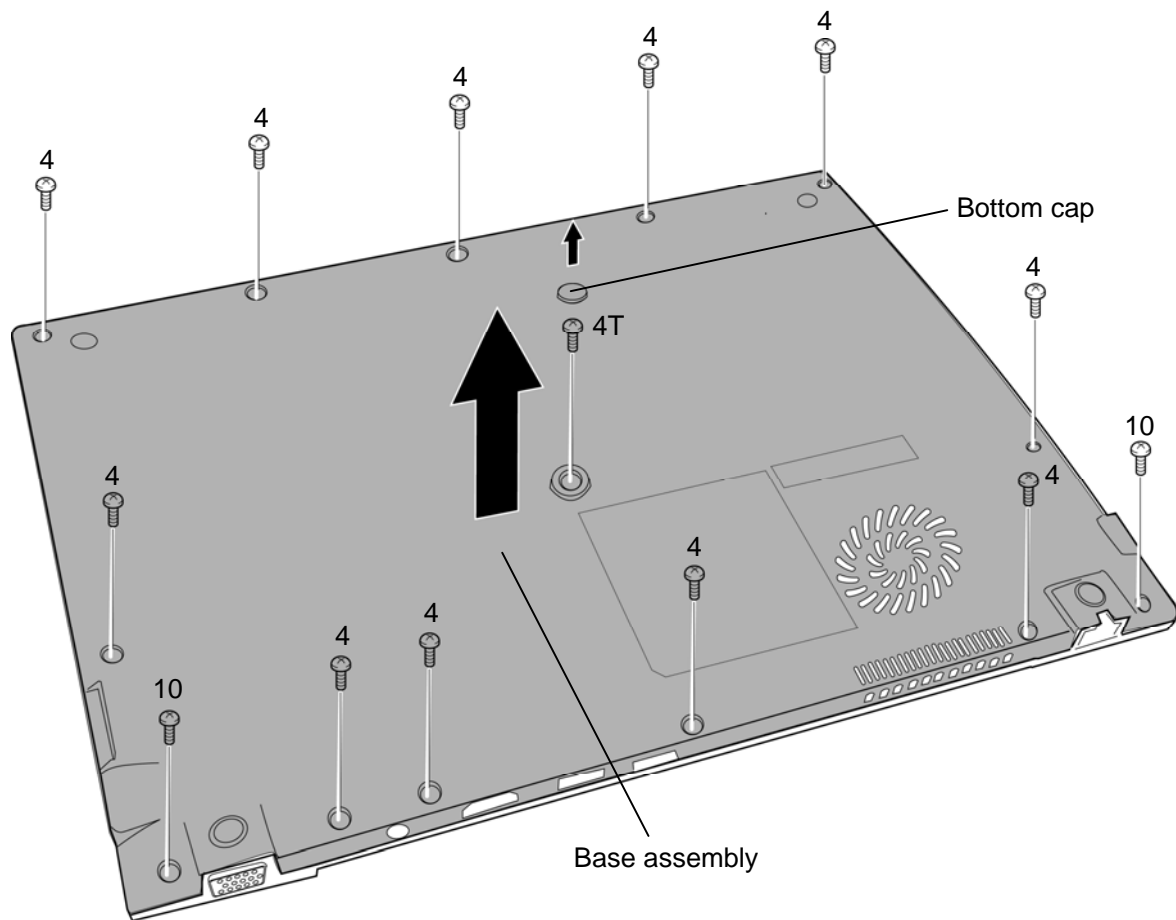

Figure 4-4 Removing the battery pack (1)
To remove the battery pack, confirm that the computer is shut down. Then follow the steps below and refer to Figure 4-4 and 4-5.
To install the battery pack, confirm that the computer is shut down. Then follow the steps below and refer to Figure 4-4 and 4-5.
- M2.5×4B TORX screw ×1 (Described as “4T” in the Figure 4-4)
- M2.5×4B FLAT HEAD screw ×11 (Described as “4” in the Figure 4-4)
- M2.5×10B FLAT HEAD screw ×2 (Described as “10” in the Figure 4-4)